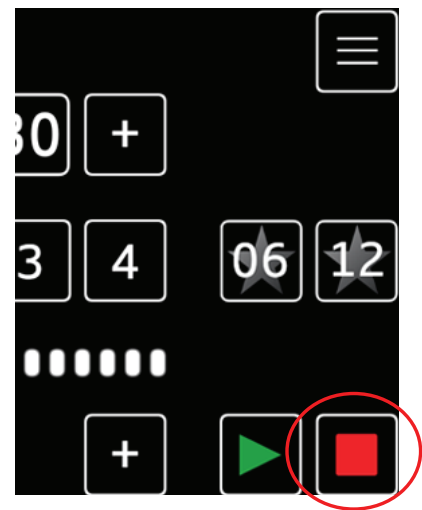

Figure 11-2.
5. Select the red “stop” symbol to stop the mixer at anytime during the mixing process. Speed setting will default back to 46 RPM. (Figure 11-2).